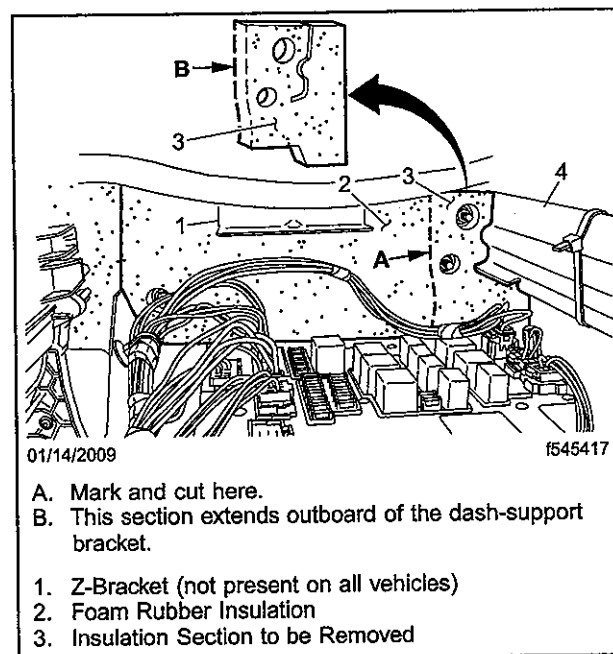

Fig. 1, Frontwall Insulation (view from inside the cab)
6. Make a vertical cut into the foam rubber insulation that lines the inside of the frontwall, forward of the SAM Cab. See Fig. 1.
7. Remove all of the insulation to the right of the cut previously made, including the section that is outboard of the dash support bracket. See Fig. 1.